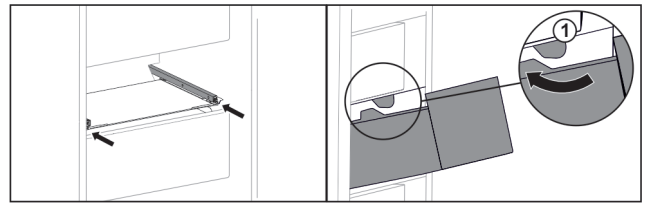

Fig. 40
- ▶ Guide the drawer around the stoppers Fig. 40 (1).